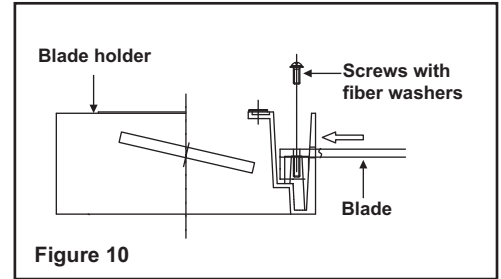

Figure 10
Step 1. Insert the blade through the slot in the blade holder. Align the holes in the blade and the fan blade holder and secure with a the screw and fiber washer. (Fig. 10)